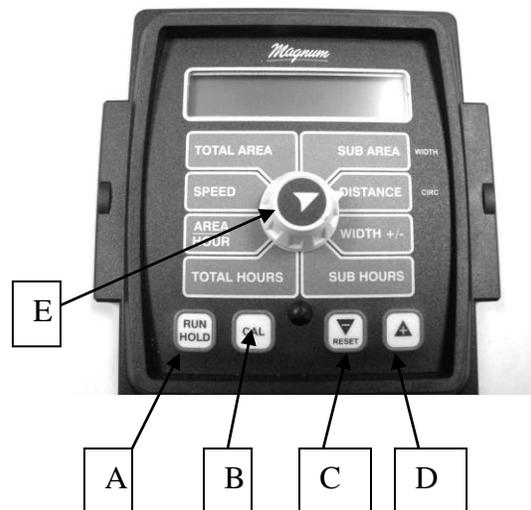

Figure 1—View showing early Magnum counter.
2. Power up the counter. Place the counter in HOLD by pushing the RUN/HOLD button (**Figure 1**) or place the selector valve that controls the rear conveyor in the OFF position. The display will read HOLD.